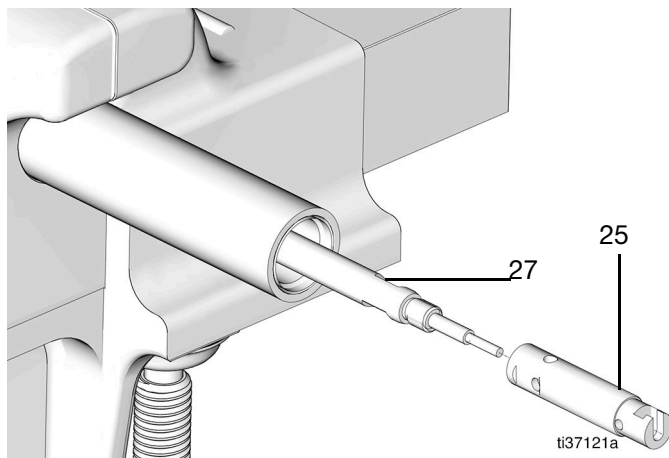
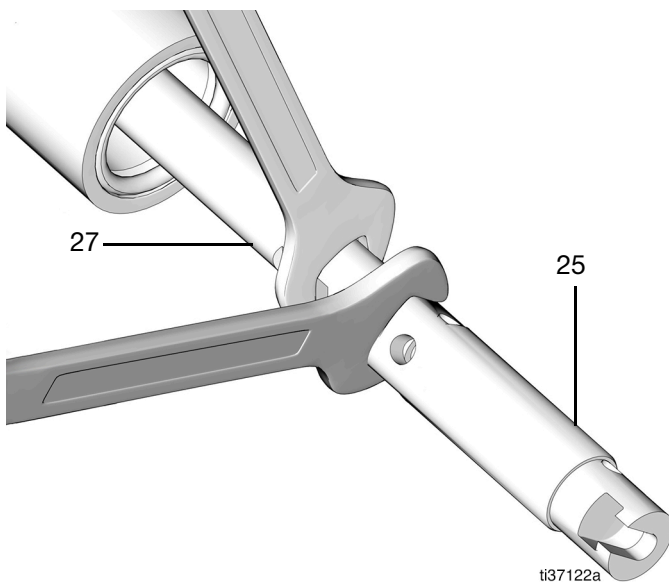

FIG. 57
FIG. 58
11. Apply medium strength thread locking compound on the threads of the pump rod (27).
12. Place the pump piston (25) on the end of the pump rod (27) and tighten using wrenches (torque 10 ft-lb/13.6 N•m) (FIG. 57 and FIG. 58).